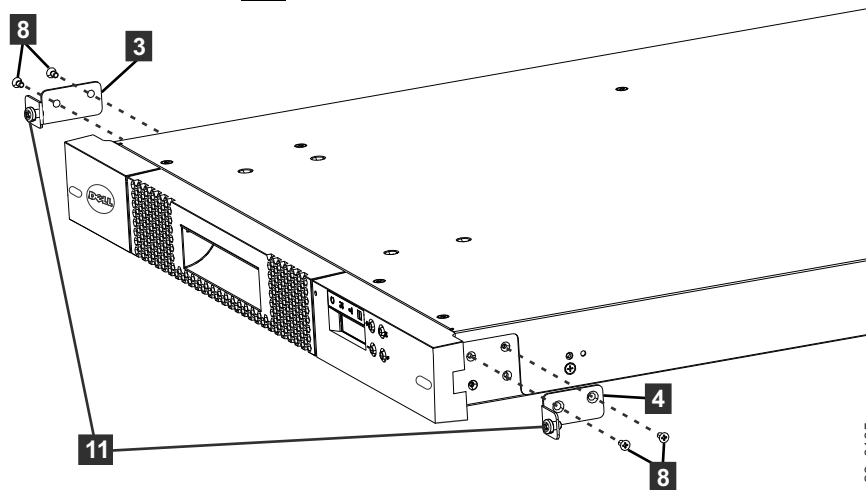

Figure 11. Attaching the front brackets to the library chassis
4. Attach the left **3** and right **4** (Figure 11 on page 22) front brackets to the front of the library chassis with 2 flat-head screws **8** on each side. Use the top two screw holes on each side. The flange of each bracket with the inserted screws (**11**) fits into the cutout on each side of the bezel.